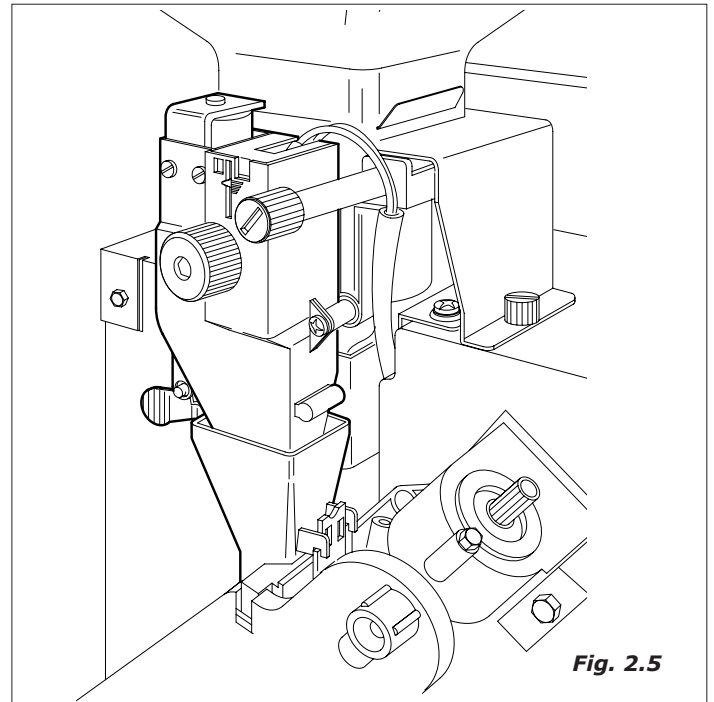

Fig. 2.5
- the grinder is activated until it reaches the dose of ground coffee set by the doser (Fig.2.5)